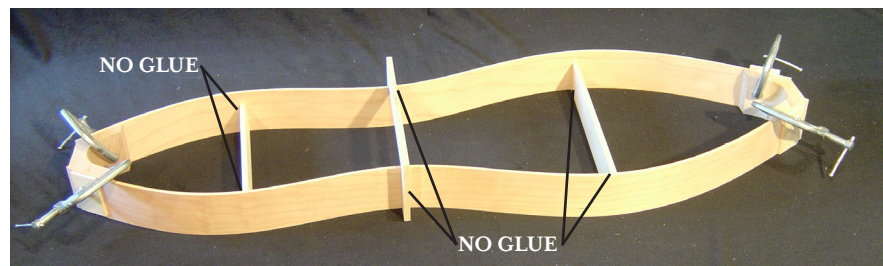

FIG. 2
- \_\_\_2. Find the spacers for your kit and position them to hold the shape of the instrument. (fig. 2) The three spacers for this kit will force the sides into position without much room for adjustment.